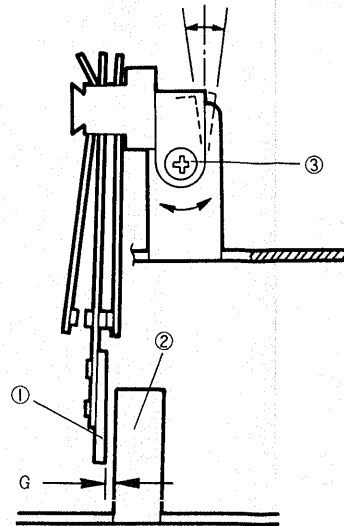

Fig. 28
2. Push in the plunger (1) until (2) comes into contact with (3).
3. Loosen screws (5) and move the solenoid so that the gap G is 1.6mm in this condition.
6.5 PLAY SWITCH (Fig. 28)